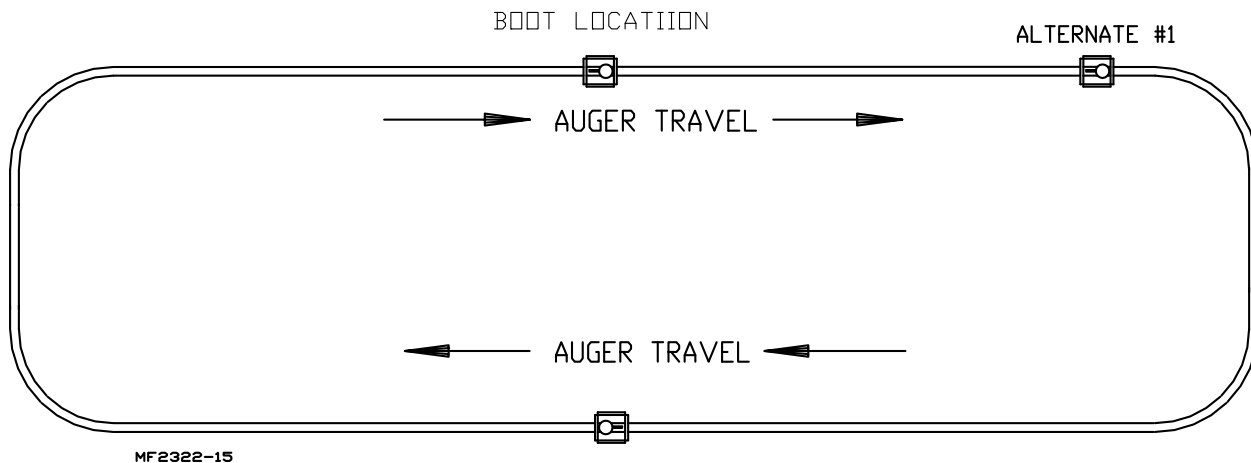

Figure 46. Feeder boot Layout
2. Systems with two (2) feeder boots (systems with over 500' [152 m] total auger length) must have feeder boot located as specified in *"Planning the System"* on page 8.
Systems with one (1) feeder boot (systems less than 500' [152m] total auger length) may have the feeder boot located as specified, see **Figure 46**.